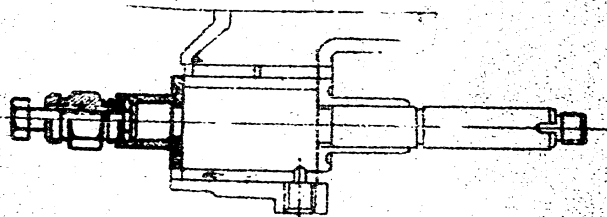

Fig. 15
a) Pressing the bronze bush out from the water pump shaft by means of a special tool (Fig. 15);